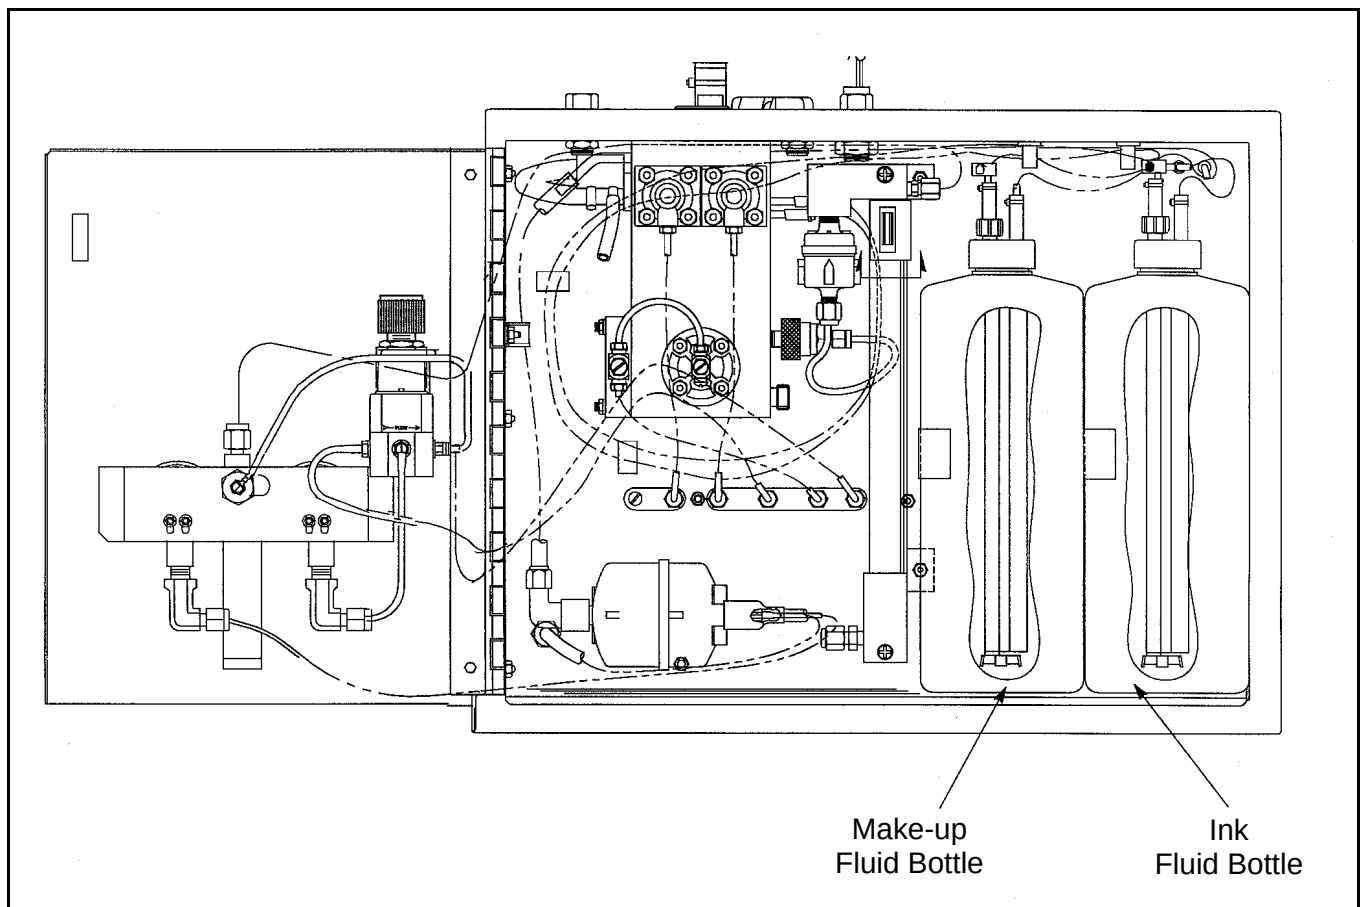

Figure 4-1. Fluid Pan
1. Check the fluid levels in the ink and make-up fluid bottles. If levels are low, replace them with new bottles of fluid. Refer to Figure 4-1 for the location of the ink and make-up fluid bottles.